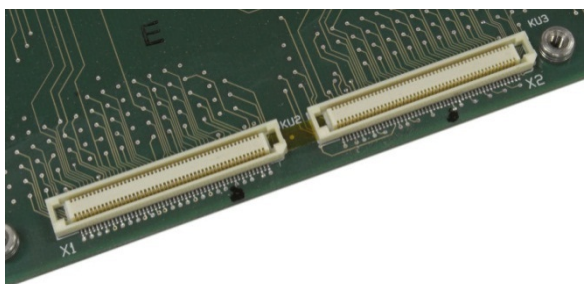
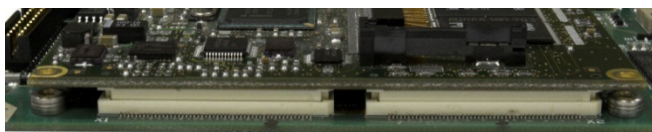

Figure 3-57: Close-Up View of ETX Connectors on Main PCB
Figure 3-58: ETX Board Resting on Connectors
2. Position the ETX board over its connectors. Figure 3-57 shows two of the connectors, and Figure 3-58 shows a side view of the board resting on its connectors.